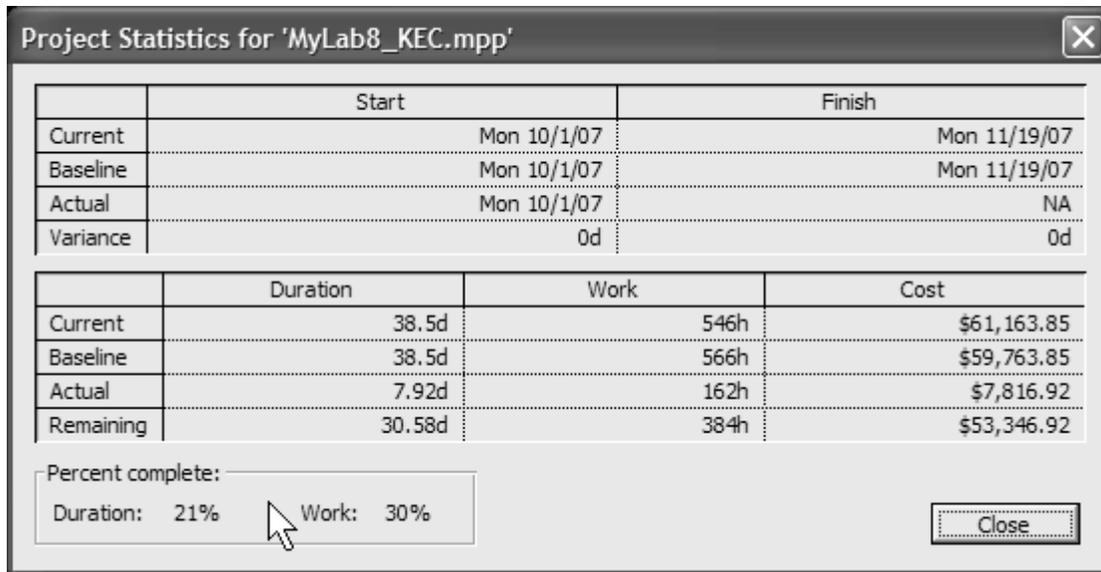

Figure 8
3. You should see the information as in figure 8. The Percent Complete is for the entire project.